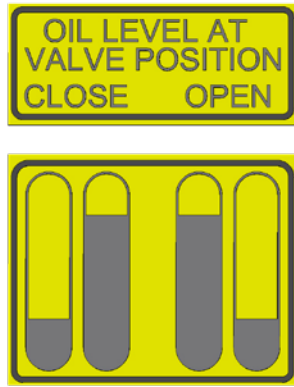
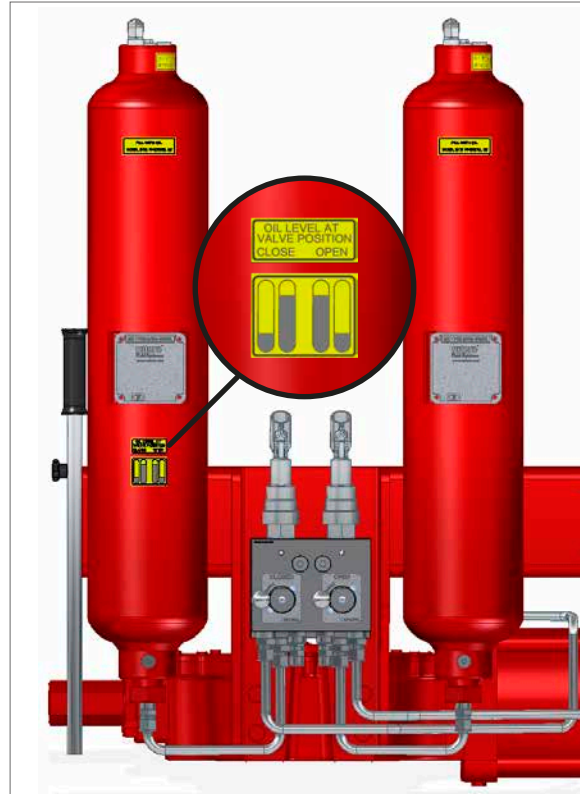

Fig 5.5 Oil level label
Fig 5.6 Example of oil level label
- Oil level: to indicate the oil level in the gas-oil tank in the Open and Close position (see Fig 5.5, Fig 5.6 for reference only).